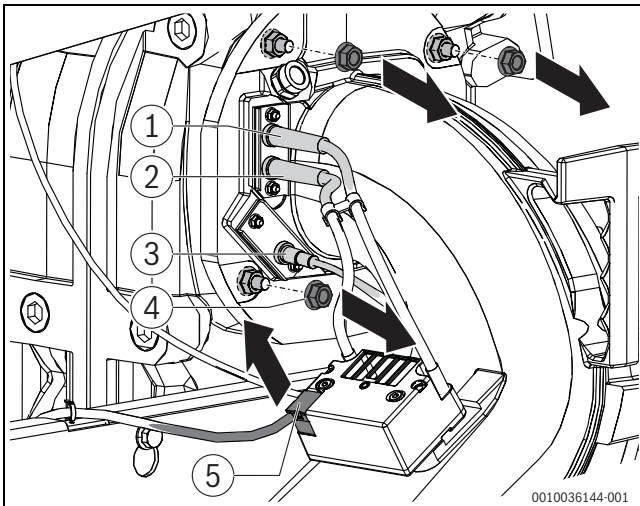

Fig. 56 Undo the connecting cable and nuts on the ignition transformer
- ▶ Undo the connecting cable on the ignition transformer (→Fig. 56, [5]).
- ▶ Remove the 4 fixing nuts (→Fig. 56, [4]) at the top on the mixture manifold.